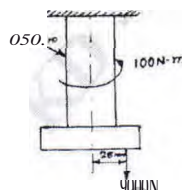

Fig. Q1 (b)
- b. A 50 mm diameter steel rod supports a load of 9 kN and in addition is subjected to a torsional moment of 100 N-m as shown in Fig. Q1 (b). Determine the maximum tensile and the maximum shear stress. (08 Marks)